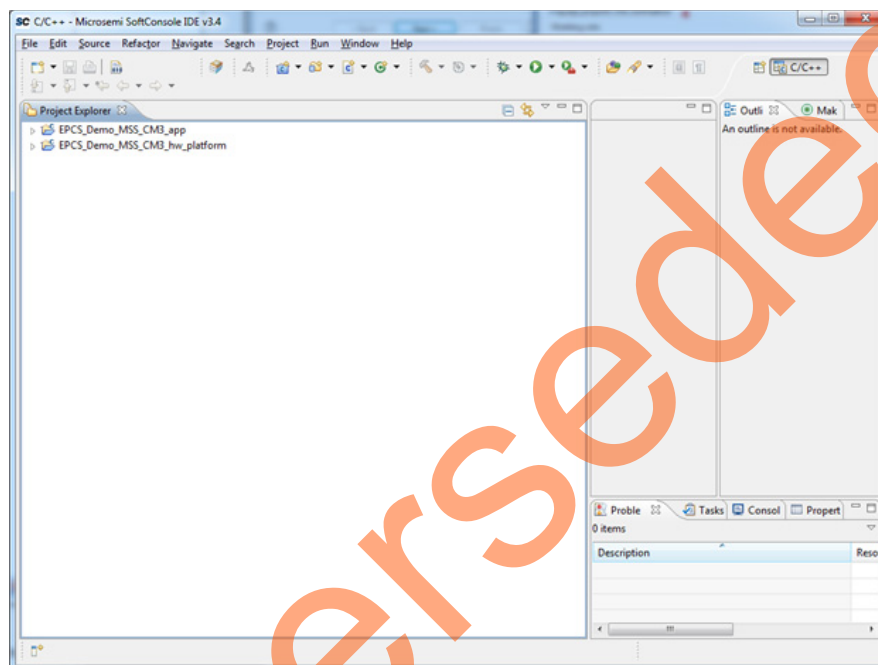

Figure 52 • SoftConsole Workspace
- f. Click **Finish**. The **SoftConsole Workspace** window is displayed, as shown in Figure 52.